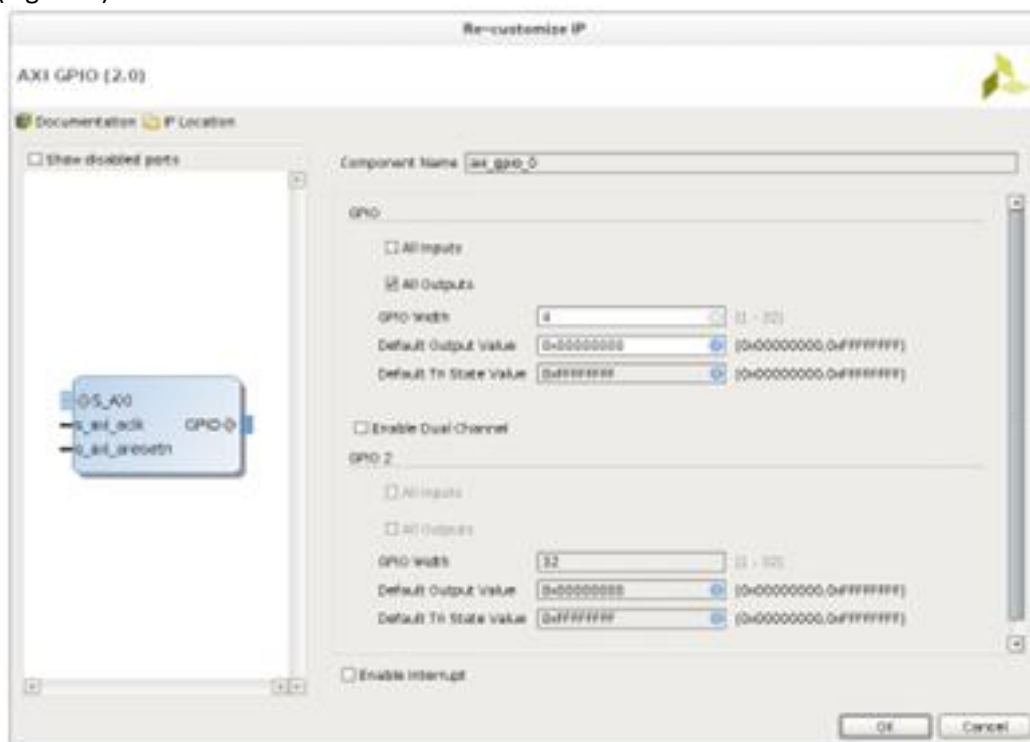

Figure 4: Customize GPIO
- The processor is set up, now we need to add General Purpose IO (GPIO) blocks to interact with LEDs, Switches and Buttons on the ZYBO board. Right click and select 'ADD IP'. Search for 'GPIO' and select 'AXI GPIO' to add it to the design. Double click on the GPIO block named 'axi gpio 0' and select the 'IP configuration' tab. Set the following configuration for the GPIO and click 'OK' (Figure 4).